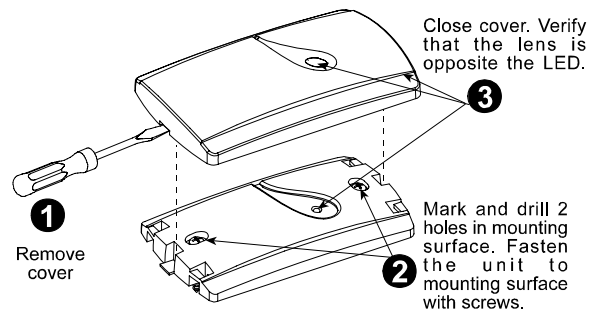

**Figure 3 - Control Unit Installation**
- Gain access to the DIP switches, as shown in figure 3 (steps 1-4) and figure 5 (steps 1-2).